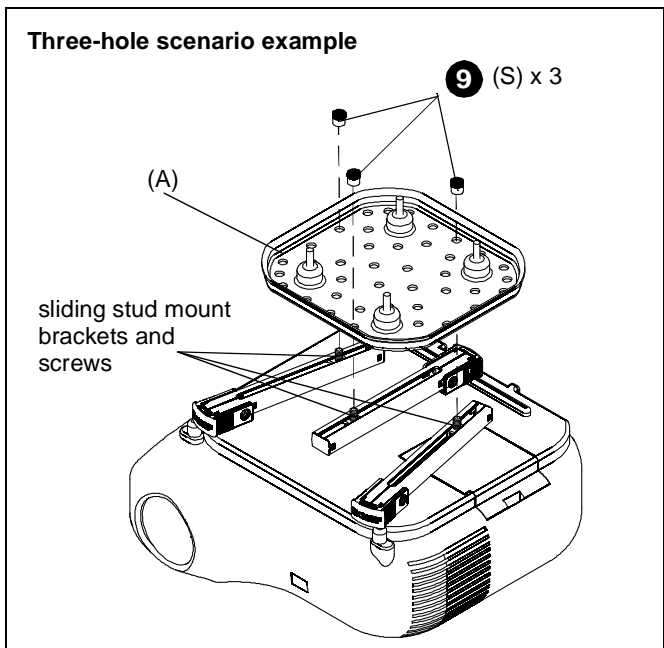
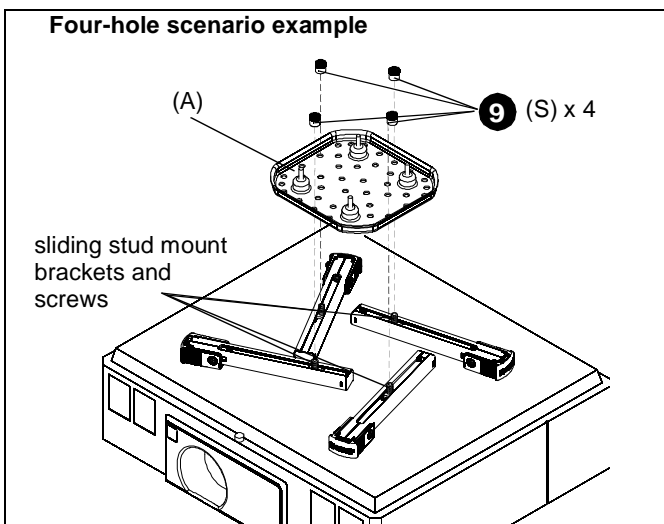

Figure 6
Figure 7
- Maneuver legs so that sliding stud mount brackets and screws are towards the middle of the projector. (See Figure 6) and (See Figure 7)
- Position sliding stud mount brackets and screws so that SSBU or SSMU main plate (A) can be evenly mounted to legs. (See Figure 6) and (See Figure 7)
- Secure SSBU/SSMU main plate to SSBU/SSMU legs by installing 1/4-20" Allen nuts (S) to screws on SSBU/SSMU legs. (See Figure 6) and (See Figure 7)